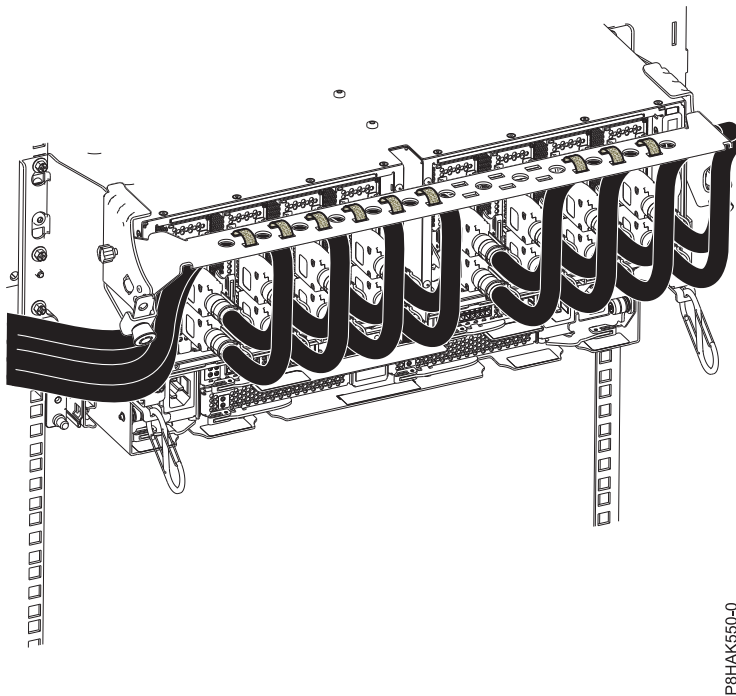

Figure 11. Routing the cables to the cable management bracket
5. Route the CXP, expansion drawer cables, and input/output (I/O) cables to the cable management bracket. See Figure 11 on page 11.
- f. Using hook-and-loop fasteners, route the bulk wire and cable fiber to the cable management bracket as shown in Figure 11 on page 11.